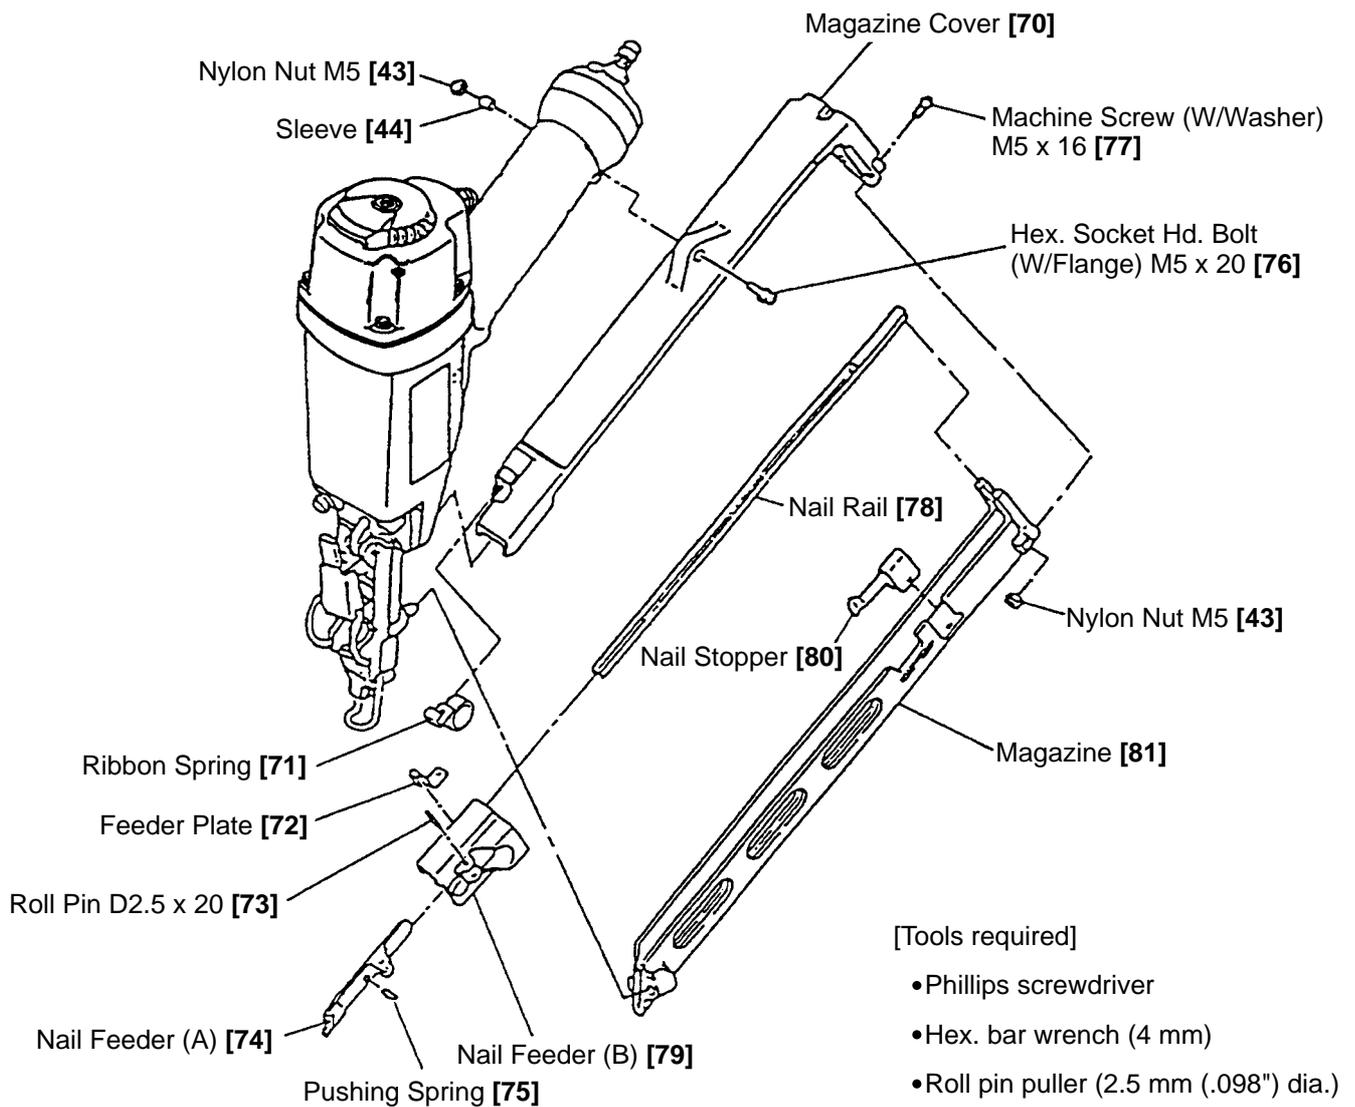

Fig. 22 Disassembly and reassembly of the magazine section
(2) Disassembly and reassembly of the magazine section (See Fig. 22.)